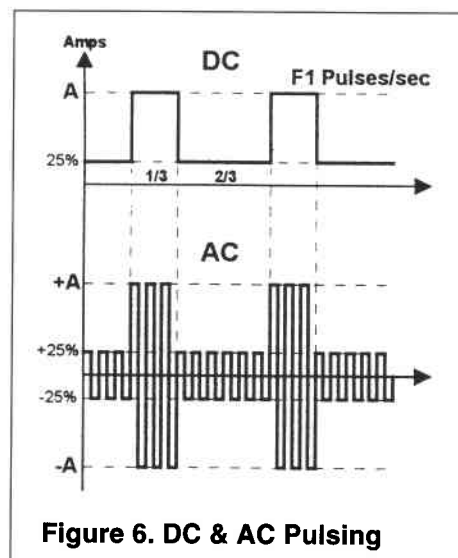

Figure 6. DC & AC Pulsing
- 3.2 To revert to DC process, at the standby mode display ③ press and hold the AC MODE key until the green AC MODE light goes off (2-3 seconds).
4. Selecting Pulse Mode, see Figure 6.